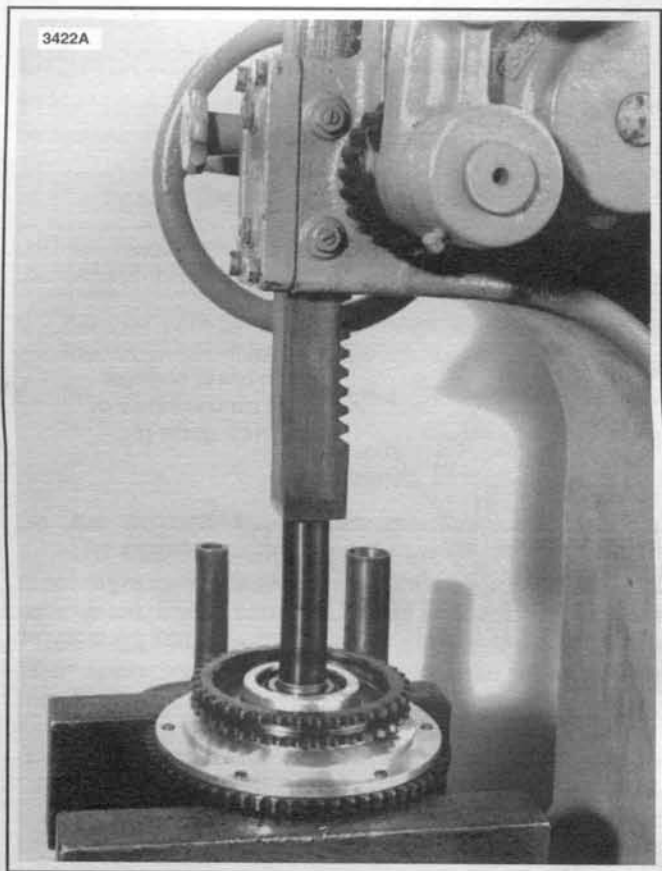

Figure 6-13. Pressing Clutch Hub From Bearing
- See Figure 6-13. Press clutch hub from inner bearing race with arbor press.